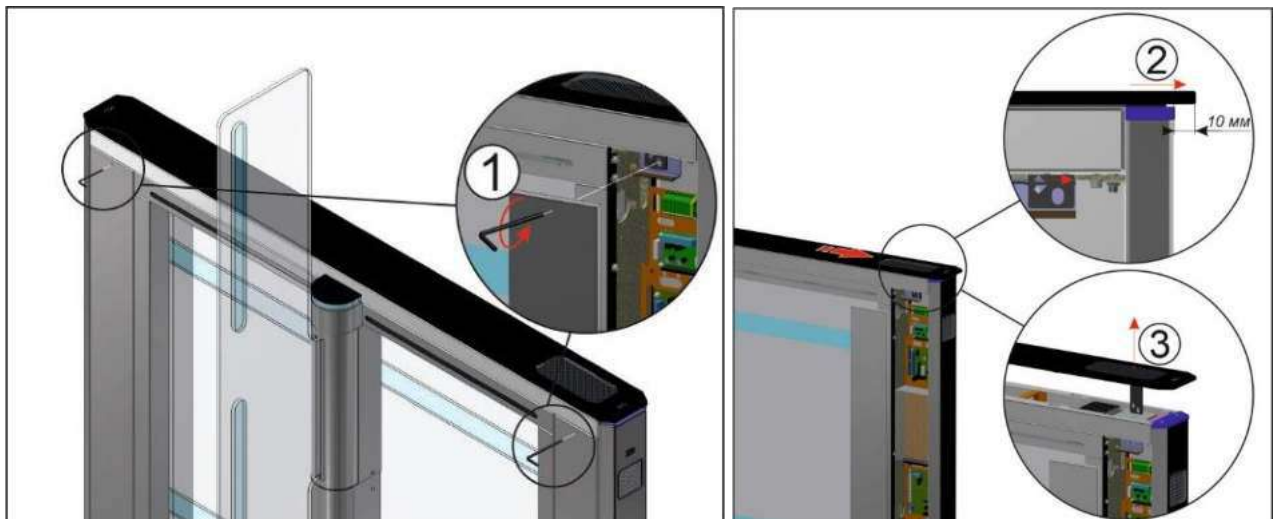

Fig.20 –Disassembly of glass top lid
- 2 the solid glass top lid to be removed (see more Fig.20);